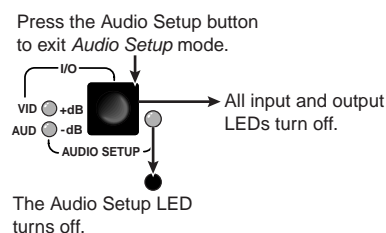

Figure 3-35 — Exit Audio Setup mode
4. Press and release the Audio Setup button (figure 3-35). All audio changes are saved.